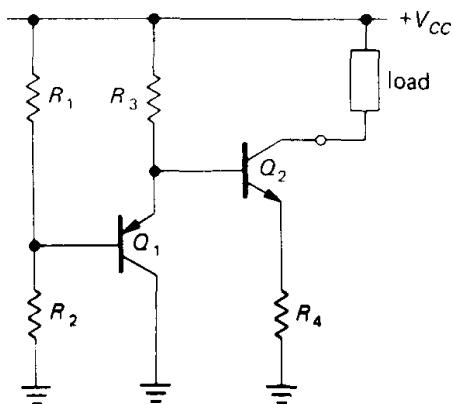

Figure 2.23. One method of temperature-compensating a current source.
2. V_{BE} and also h_{FE} depend on temperature. This causes drifts in output current with changes in ambient temperature; in addition, the transistor junction temperature varies as the load voltage is changed (because of variation in transistor dissipation), resulting in departure from ideal current source behavior. The change of V_{BE} with ambient temperature can be compensated with a circuit like that shown in Figure 2.23, in which Q_2 's base-emitter drop is compensated by the drop in emitter follower Q_1 , with similar temperature dependence. R_3 , incidentally, is a